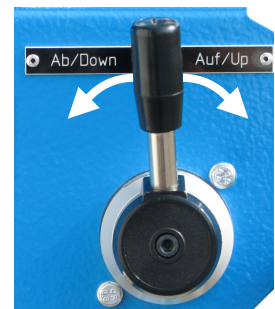

Fig. 12: Ram control lever
5. Once there is sufficient space under the pump for the flushing agent container, set the ram control lever to "Stop" (middle position as shown in Fig. 12).